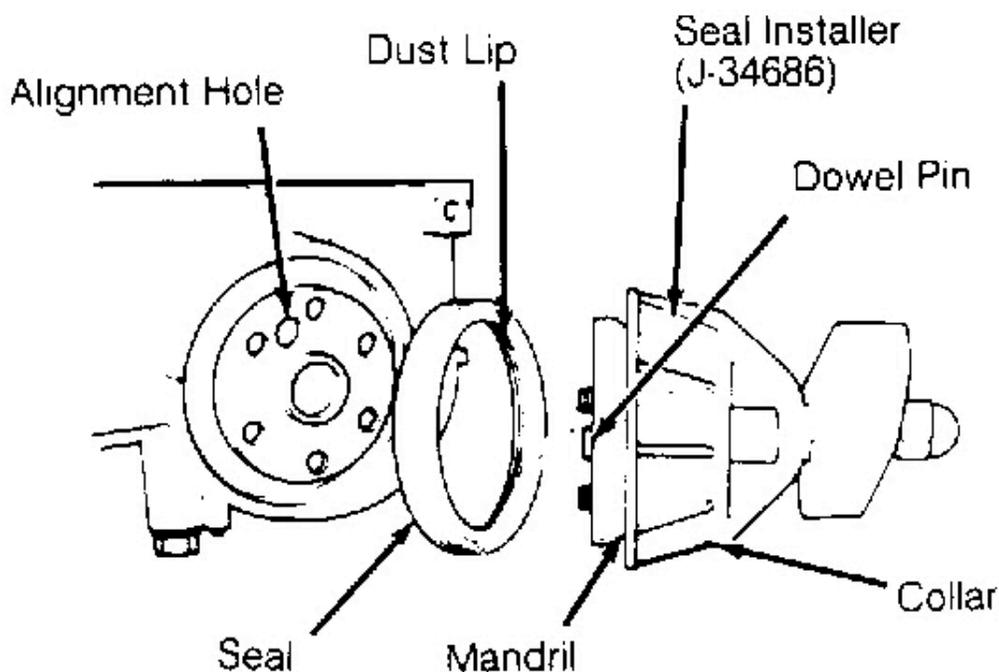

Fig. 7: Installing Rear Crankshaft Seal
1. Coat inner and outer seal surfaces with engine oil. Install seal on mandril of Seal Installer (J-34686) until dust lip bottoms against tool collar. See **Fig. 7**.
2. Align seal installer dowel pin with alignment hole of crankshaft. See **Fig. 7**. Install seal installer on crankshaft. Tighten seal installer bolts to 27-62 INCH